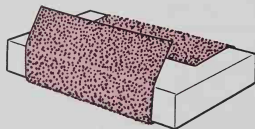

Fig. 4-77. Use abrasive cloth wrapped around a wood block to smooth flat surfaces.
2. Wrap it around a wood block which is long enough to grip comfortably, Fig. 4-77.